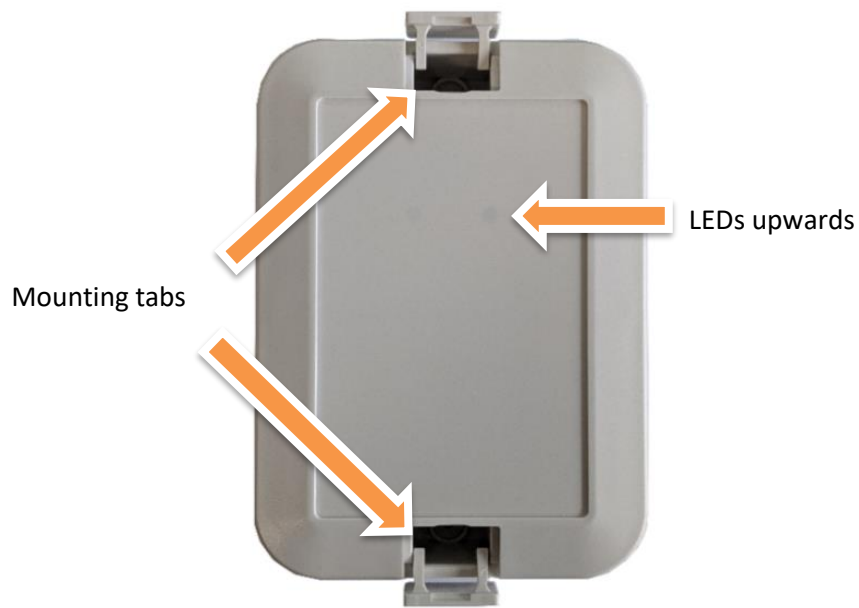

Figure 3: Device orientation
- When mounting the device, make sure that it is only mounted in the orientation shown in Figure 3.